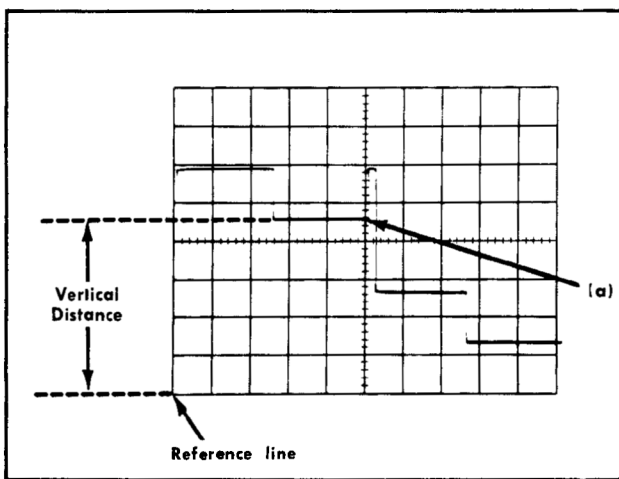

Fig. 2-11. Measuring instantaneous DC voltage with respect to a reference.
9. Measure the distance in divisions between the reference line and the point on the waveform at which the DC level is to be measured. For example, in Fig. 2-11 the measurement is made between the reference line and point A.
Example: As an example of this method of measurement, assume that the vertical distance measured is 4.6 divisions (see Fig. 2-11) and the waveform is above the reference line using a 10X attenuator probe and a VOLTS/DIV switch setting of 2.